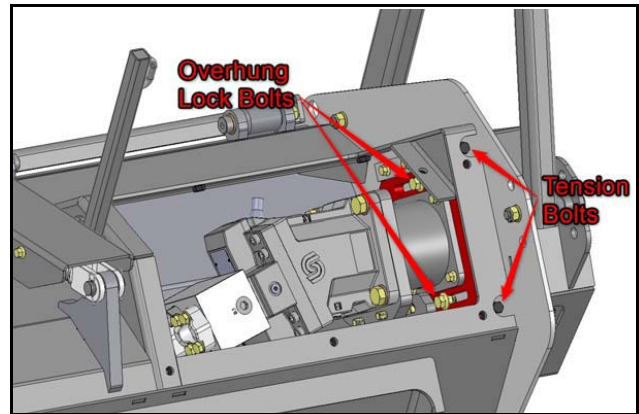

Figure 12
3. Loosen both tension bolts [Figure 12].